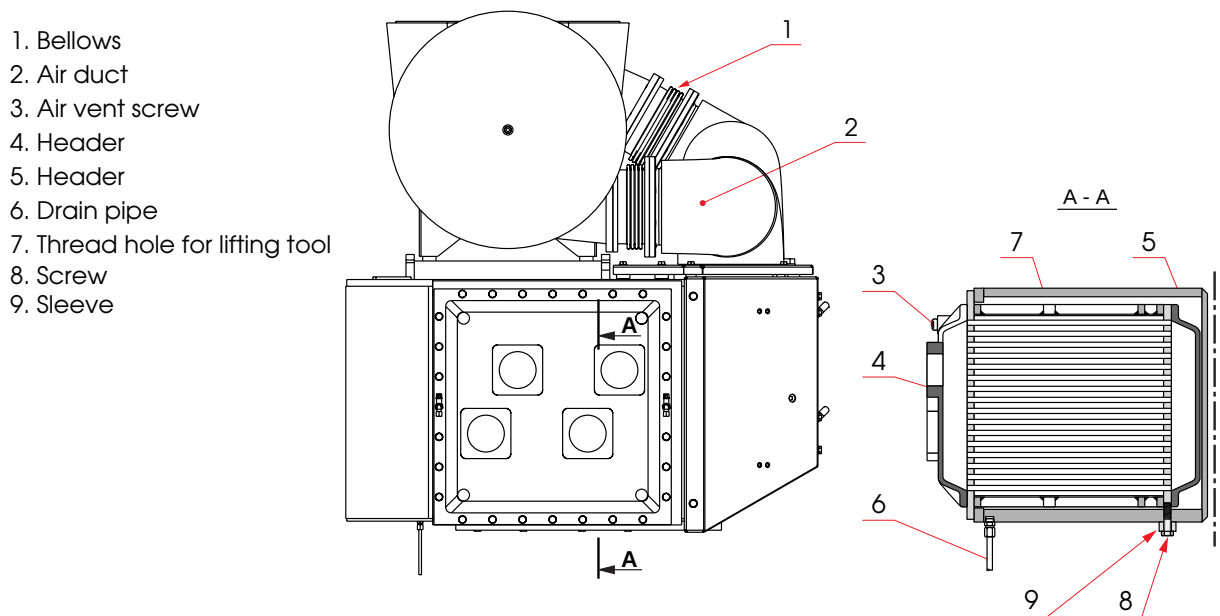

Fig 15-1
1 Condensate from the air is drained through a small hole/pipe (6), Fig 15-1, at the bottom of the cooler housing, after the insert, and at the opposite end plate of the air manifold. Examine regularly that the pipe is open by checking the air flow when running.
2 At longer stops, the cooler should be either completely filled or completely empty, as a half-filled cooler increases the risk of corrosion. If there is a risk of that the water level in the system goes down when the engine is stopped, drain the cooler completely. Open the air vent screw (3), Fig 15-1, to avoid vacuum when draining.
1 Remove the cooling water pipes. Unscrew the fixing screws (8) at the bottom of the charge air cooler housing, see Fig 15-1. Loosen the cooler flange screws. On the V-engine, withdraw the cooler about 300 mm and fit the tool 32.84G02 (846025). Screw on the tool by using four of the air cooler fastening screws. Then, withdraw the cooler completely towards the tool stop. If necessary, use screws in the two threaded extractor holes in the flange to loosen the cooler.